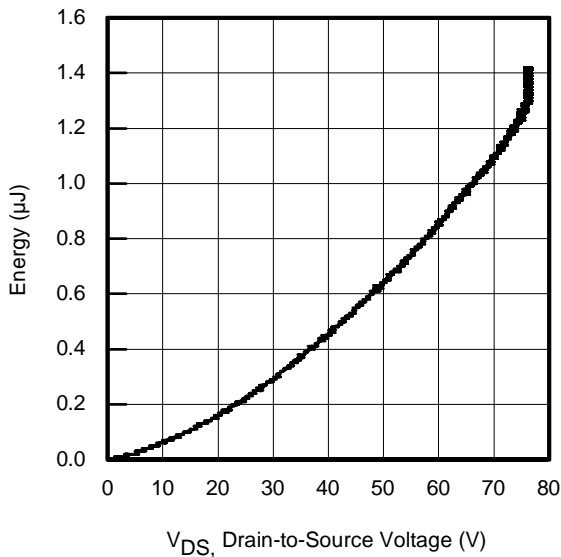

Fig 11. Typical C_{OSS} Stored Energy
| C _{oss} eff. (ER) | Effective Output Capacitance (Energy Related) | — | 460 | — | | V _{GS} = 0V, V _{DS} = 0V to 60V ^⑦ , See Fig.11 |